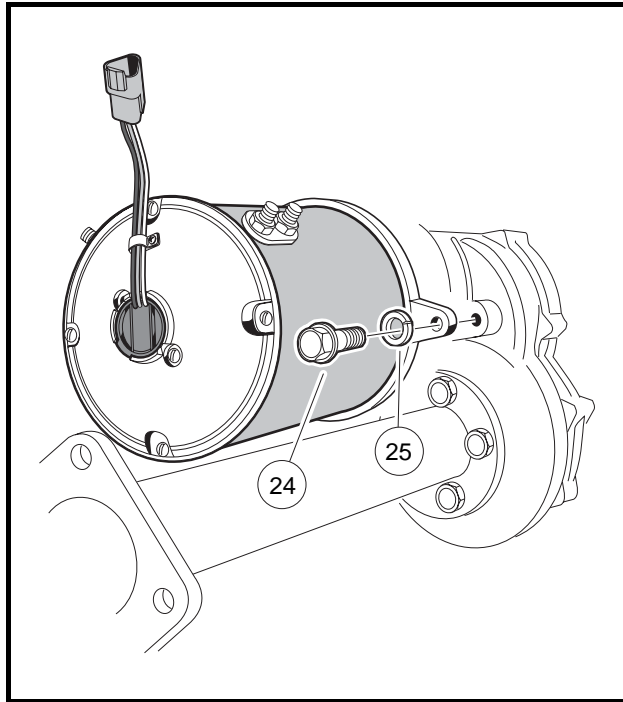

Figure 16-18 Motor Installation
- 4.7. Tighten the bolt (24) inserted through the tab to 155 in-lb (17.5 N·m) (**Figure 16-18, Page 16-15**).